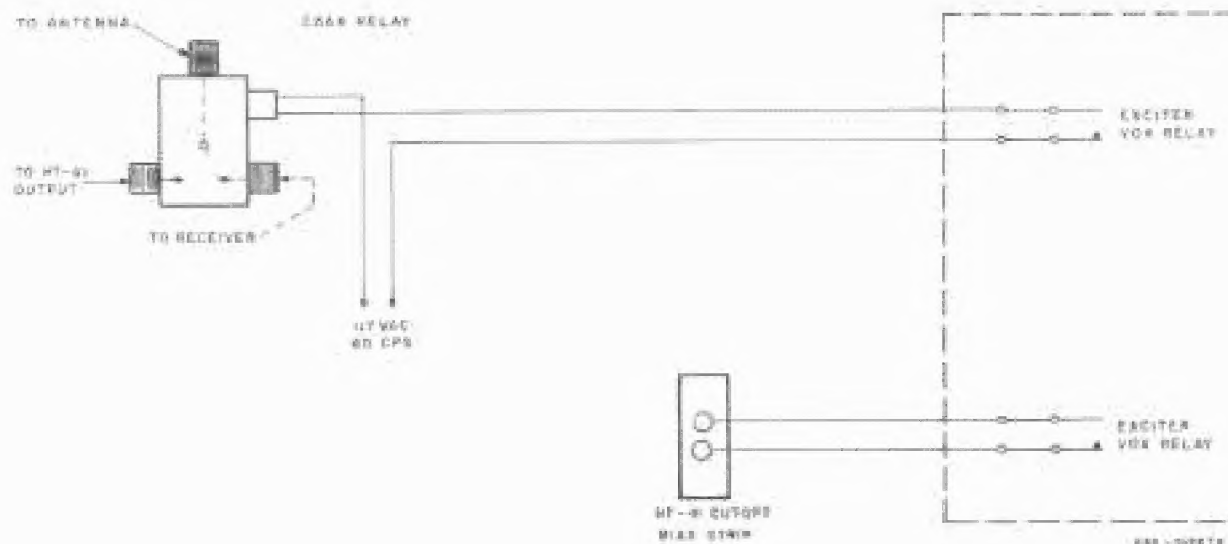

Figure 2. Antenna and Bias Switching Circuit.
Cut-off bias should be used in all modes of operation. Figure 2 illustrates how to connect the antenna and bias switching circuits. The Model HT-41 is shipped without a jumper connected between the screw terminals of the cut-off bias terminal strip.
4. The cut-off bias terminals on the screw type terminal strip should be connected to the exciter, as shown in figures 2 and 3.